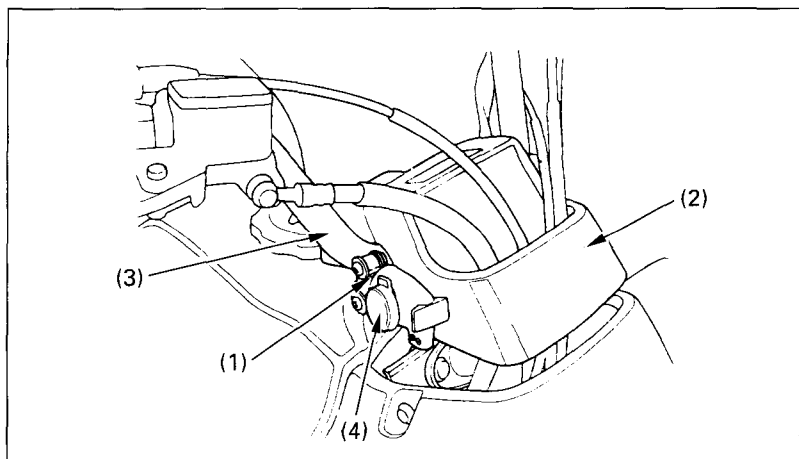

Fig. 2-24      (1) 12 V DC receptacle      (3) Right handlebar
The DC receptacle (1) (Fig. 2-24) is attached to the right handlebar, near the handlebar cover (2). The receptacle provides 12 V DC power at a maximum of 180 watts (15 amps). If you exceed this limit, you may blow the fuse. (For information on fuses, and how to replace a fuse, see pages 113 – 114).
(2) Handlebar cover                    (4) Special DC plug
Electrical accessories may be connected to the receptacle by using the special DC plug (4) (Fig. 2-24) that comes attached to the receptacle. Be sure to use only accessories that are designed for 12 V DC power.
1. Remove the plug (4) from the receptacle (1) (Fig. 2-24).